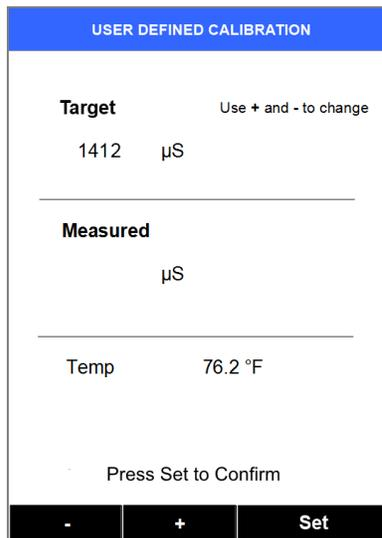
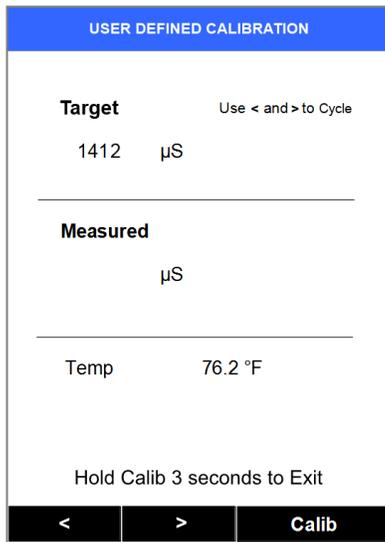
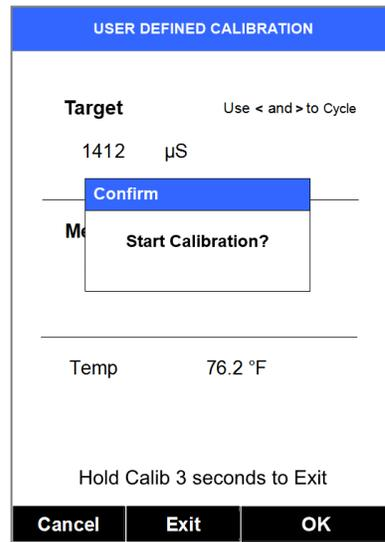

Figure 16
Figure 17
Figure 18
- 5) Use the < or > keys to cycle to the User Defined calibration. With each press various elements of the display will update, such as the calibration title, the type (“Target”), and the black bar. When the User Defined calibration is selected the screen will appear similar to Figure 16.
- 6) If the displayed Target numeric value is not that desired, use the - and + labeled keys (< or >) to adjust the value to that desired. Holding them down will scroll the values at a speedier rate. Once the value is as desired, press Set (OK) to confirm the numeric value to be used. Ensure the selected value matches the standard being calibrated with. The black bar will update as in Figure 17 (it now shows Calib rather than Set). Press Calib (OK). The screen will update to Figure 18 with the Confirmation popup.
- 1) If the initial displayed numeric value for the User Defined target in Figure 16 is that desired, then a short key press path (including power on) are: OK, >, <, OK, OK, OK, and a long 3 second press of OK to return to read mode. (Using < here will go directly to User Defined rather than all possible target calibration types.)
- 3) If in Figure 16, the user defined numeric value must be adjusted, additional use of + or – (as < or >) in Step 7 will be required, in addition to the keys listed in Quick Tip 1.
- 4) Once the target selection focus has been moved to User Defined as in Figure 16 and show the - and + labels on the black bar, the keys are no longer set to cycling through the calibration types but to adjust the User Defined numeric value. To get back to being able to cycle the types, you must go forward to the pop up screen of Figure 18 and Exit. From Figure 16, press OK, twice (once as Set and once as Calib), until the pop up appears. Then press > (Exit). (“Cancel” will return you to adjusting the User Defined target numeric value.) Press C-CAL and you will be able to cycle through the conductivity calibrations as desired.